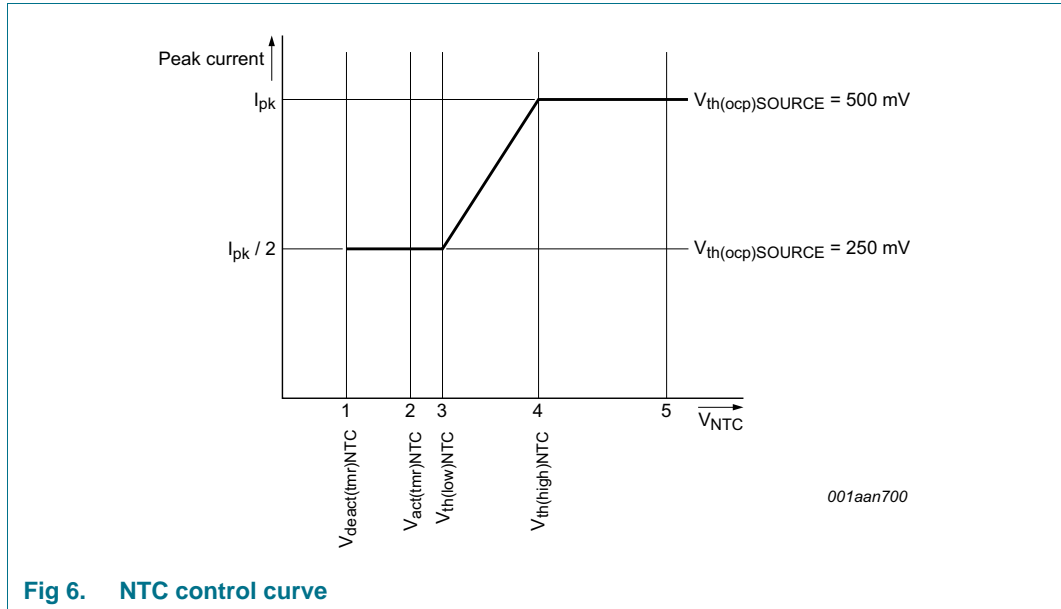

Fig 6. NTC control curve
The NTC pin can be used as a control method for LED thermal protection. Alternatively, the pin can be used as an input to disable/enable light output using a digital signal (PWM regulation). The pin has an internal current source that generates the current of $I_{\text{offset}(\text{NTC})}$. An NTC resistor to monitor the LED temperature can be connected directly to the NTC pin. Depending on the resistance value and the corresponding voltage on the NTC pin, the converter reacts as shown in Figure 6.
When the voltage on the NTC pin exceeds $V_{th(high)NTC}$ (see Figure 6 (4)), the converter delivers nominal output current. When the voltage is lower than this level, the peak current is gradually reduced until $V_{th(low)NTC}$ is reached (see Figure 6 (3)). The peak current is now half the peak current of nominal operation. When $V_{act(tmr)NTC}$ is passed (see Figure 6 (2)), a timer starts to run to distinguish between the following situations:
- If the low-level $V_{deact(tmr)NTC}$ is not reached within time $t_{to(deact)NTC}$ (see Figure 6 (1)), LED overtemperature is detected. The IC stops switching and attempts to restart from the HV pin voltage. The converter restarts from an NTC protection shutdown when the voltage on the NTC pin exceeds $V_{th(high)NTC}$ (see Figure 6 (4)). It is assumed that the reduction in peak current does not result in a lower NTC temperature and LED OTP is activated.
- If the low-level $V_{deact(tmr)NTC}$ is reached within the time $t_{to(deact)NTC}$ (see Figure 6 (1)) it is assumed that the pin is pulled down externally. The restart function is not triggered. Instead, the output current is reduced to zero. PWM regulation and consequently output LED current regulation can be implemented this way. The output current rises again when the voltage exceeds $V_{th(low)NTC}$.
The NTC pin can be used to make a soft start function. During switch-on, the level on the NTC pin is low. By connecting a capacitor (in parallel with the NTC resistor), a time constant can be defined. The time constant causes the level on the NTC pin to increase slowly. When passing level $V_{th(low)NTC}$ (see Figure 6 (3)), the converter starts with half of the maximum current. The output current slowly increases to maximum when $V_{th(high)NTC}$ (see Figure 6 (4)) is reached.